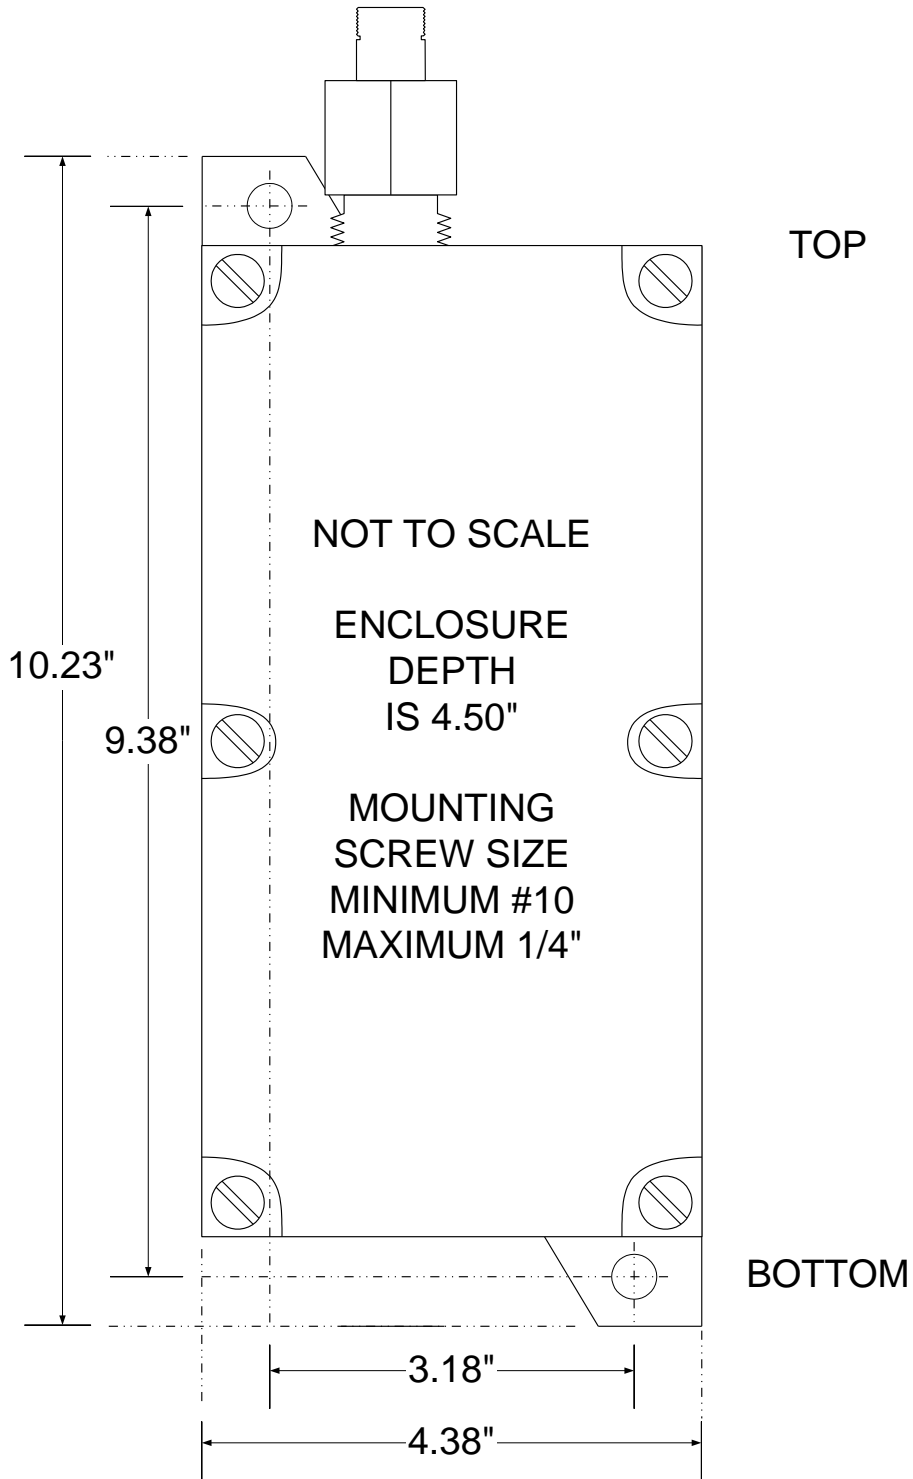

Figure 2 – Drilling Guide, Front View
- Figure 2 – Drilling Guide, Front View6
Mount the NERS01 using the drilling guide as shown in Figure 2. Do not over-tighten the mounting nuts. Use thread locking compound or self-locking nuts if required. Mount the enclosure on an even, flat surface. Mount the enclosure where easily accessible for service. The location should be high on the machine within reach of the antenna using the supplied cable.